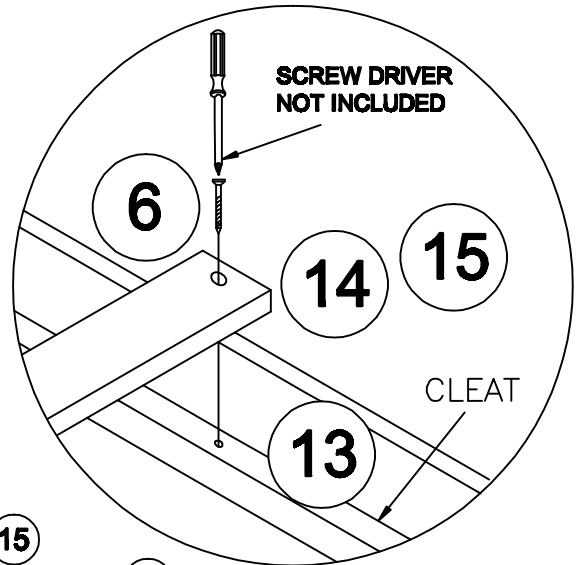
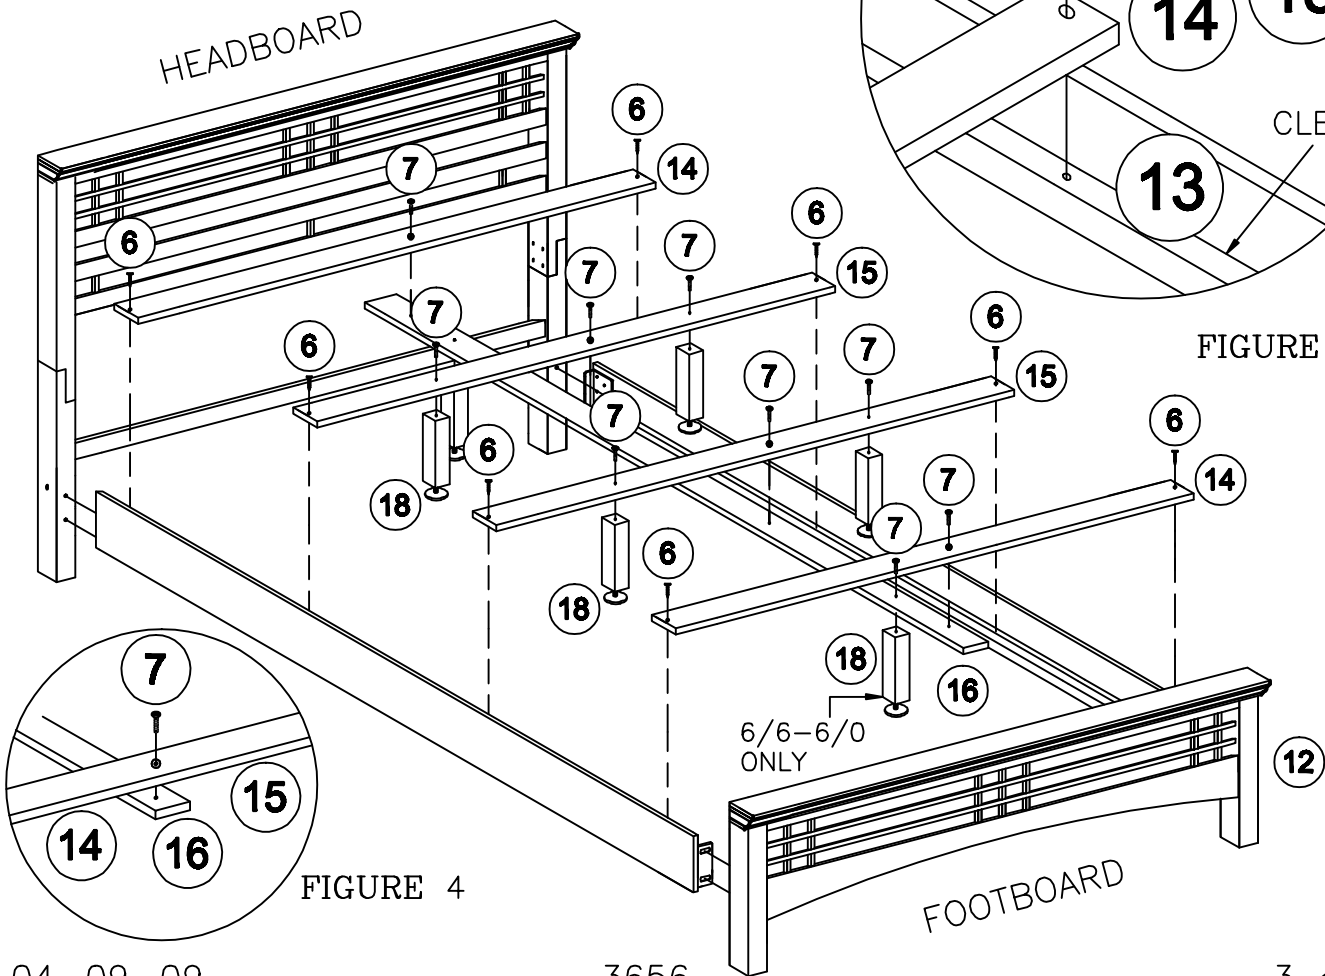

FIGURE 5
FIGURE 4
- Place slats (14/15) on side rail (13) cleat as show. See Figure 5
- Align holes on center support rail (16) with center holes on slats (14/15). See Figure 4
- Secure center support rail (15) to slats (13/14) with screw (7) use allen wrench (8).
- Secure slats (14/15) on side rail (13) cleat use screw (6). See Figure 5